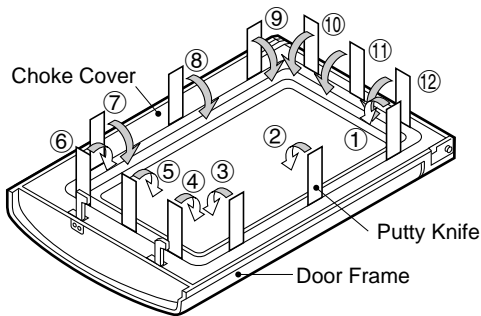

Figure C-7. Door Disassembly
- gap between the choke cover and corner portion of door panel as shown in Figure C-7 to free engaging parts.
4. Pry the principles of the lever and lift up the choke cover by inserting a putty knife in order shown in figure C-7.